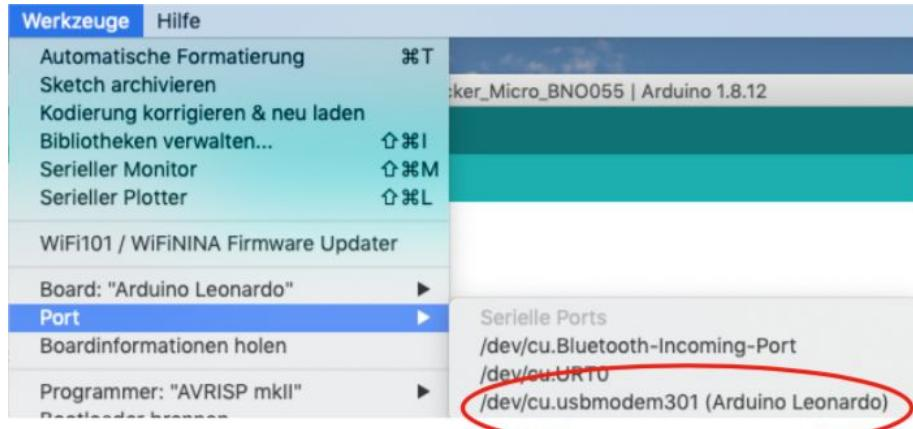

Figure 19: Port “(Arduino Leonardo)”
**Step 7.4:** Choose the belonging Port “(Arduino Leonardo)” (Figure 19) in the tools section.